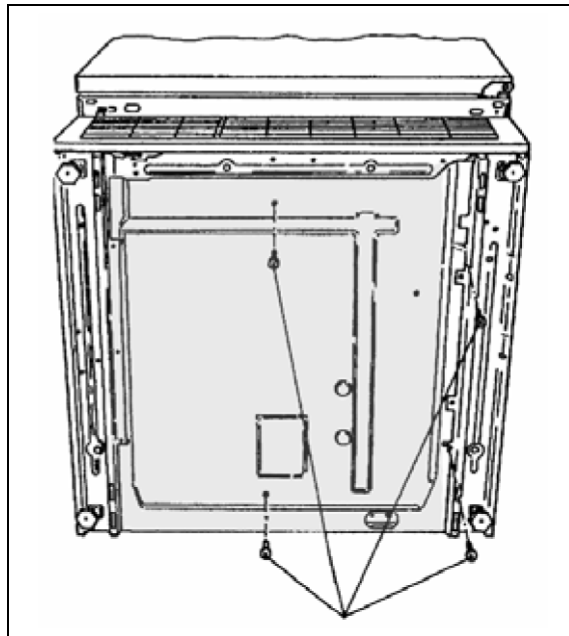

Figure 5-12: Bottom Cover Screws
2. Remove the four screws securing the bottom cover (see Figure 5-12) and lift the cover to remove it from the appliance.